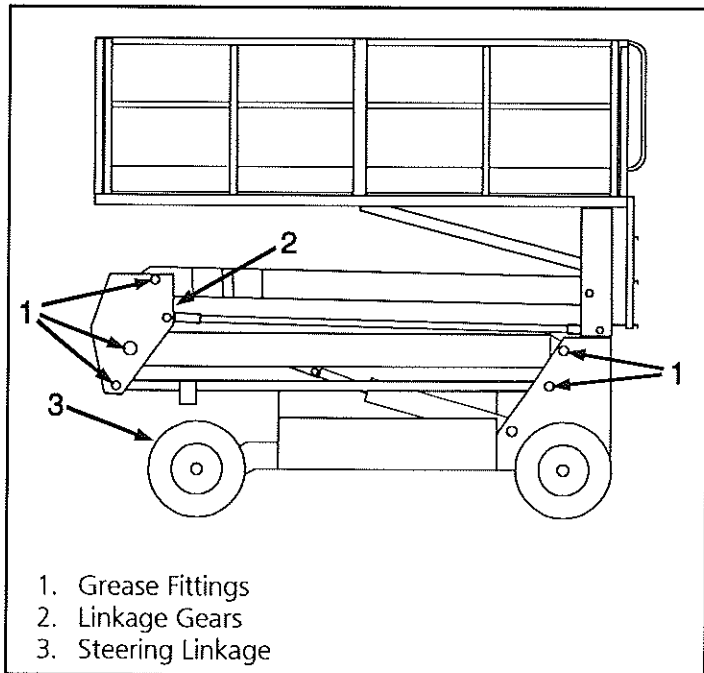

Figure 4-4: Lubrication Points
*Lubrication points are shown in Figure 4-4.
Refer to Table 4-1 for the lubrication intervals and Figure 4-4 for location of items that require lubrication service. Refer to the appropriate sections for lubrication information on the Hydraulic Oil Tank and Filter and Rear Wheel Bearings.